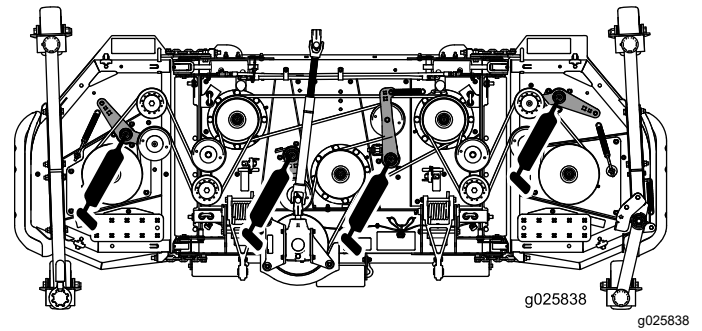

Figure 13
- Idler arm pivots (4) (Figure 13)